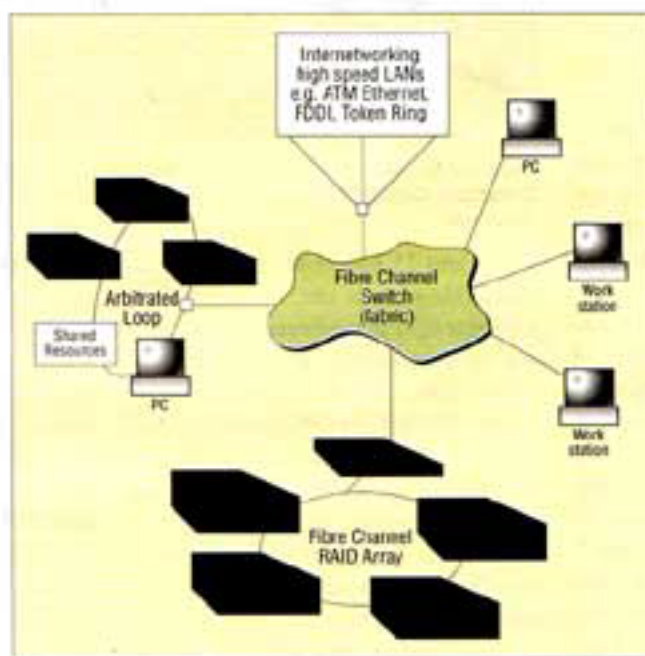

Figure 2. Using today's networking technology, a server "system" can be built to replace or supplement traditional routing
Fibre Channel (FC) topologies: the arbitrated loop (AL) and the switched channel (S) (See Figure 2). The arbitrated loop is akin to a token ring LAN approach. At any given time one device has the loop to send data to another device. When the ring is free, devices arbitrate to use the loop. There is a set of rules as to who wins the right to use the loop. As with most things in life some devices play by the rules while some don't. With FC-AL, the loop bandwidth is shared by all devices on the bus. Switched Fiber Channel (FC-S) uses a switch, much like a router in television, to setup connectivity from one device to another. At any given time one device